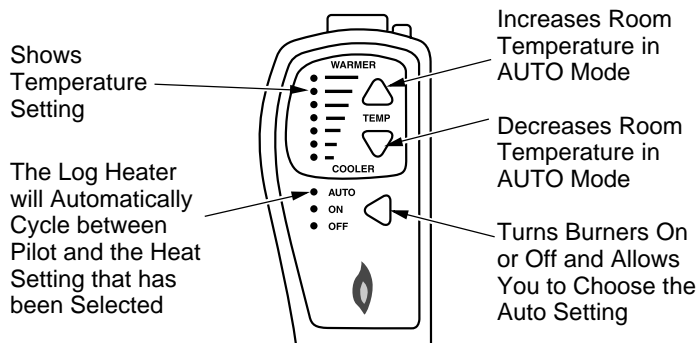

Figure 53 - Thermostat Hand-Held Remote Control Unit Selections ([C]GHRCT[A] Series Only)
1. After lighting, let pilot flame burn for about one minute. Turn gas control knob to ON position. Adjust variable control knob anywhere between HI and LO. Slide the selector switch to the REMOTE position (see Figure 53). **Note:** The burners may light if hand-held remote ON button was on when selector switch was last turned off. You can now turn the burners on and off with the hand-held remote control unit.